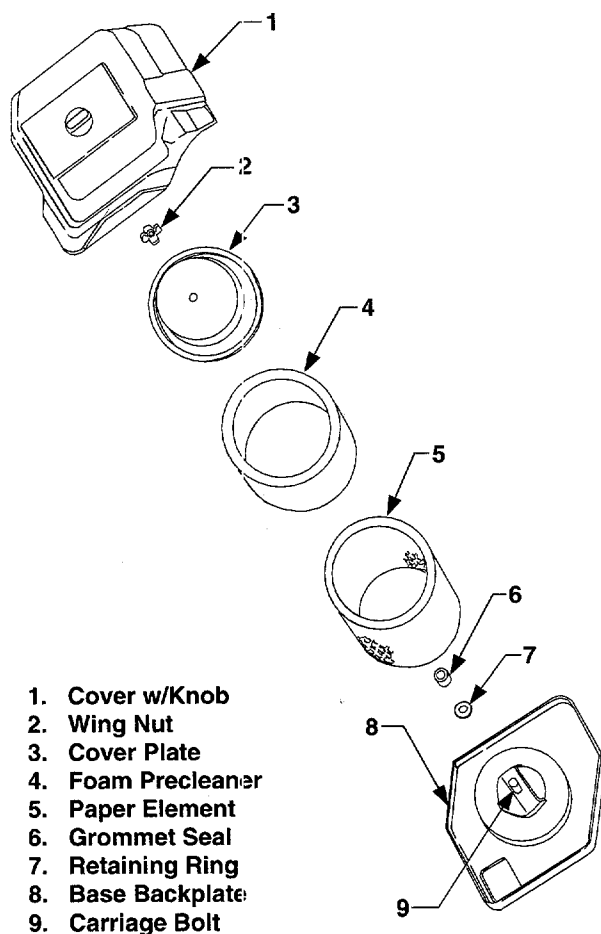

Figure 24. Air Cleaner Assembly.
- Unfasten the air cleaner cover retaining knob and remove the air cleaner cover (See Figure 24).
- Remove the foam precleaner by sliding it up off the paper element (See Figure 24).
1. Unfasten the air cleaner cover retaining knob and remove the air cleaner cover (See Figure 24).
2. Remove the foam precleaner by sliding it up off the paper element (See Figure 24).
The air cleaner element cover plate (See Figure 24) must be properly installed to seal against the gasket surface of the paper element.
6. Inspect the rubber grommet seal (See Figure 24) for deterioration, cracks, and for a snug fit on the carriage bolt. Replace if damaged or worn.
7. After making certain the carriage bolt is secured in position by the retaining ring, slide the grommet seal fully onto carriage bolt. See Figure 24.